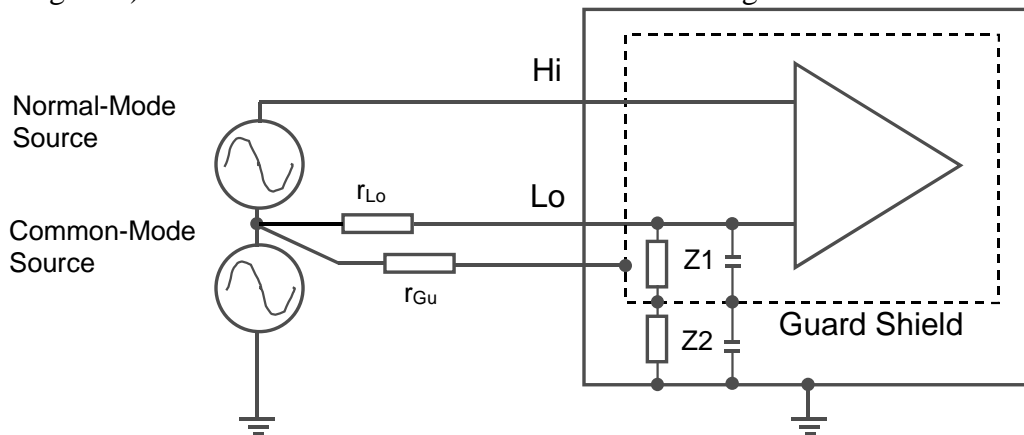

Figure 4
**Common mode interference** is generally disturbances at line frequency generated when circulating currents exist between the source and the measuring instrument. The disturbance is common to both Lo and high terminals. Appropriate guarding techniques should be applied where measurements are made in an environment where common mode voltages exist – if in doubt always use remote guard. The Guard terminal on most precision Dmms is connected to internal shielding as well as pcb tracking to screen susceptible signal input lines and input circuits. In most cases the Dmms default setting is to internally connect the Dmm Guard to the Dmm Lo terminal. In the event that common mode exists the Dmm Guard should be switched to Remote with a connection (see figure 4) made to the source of the common mode voltage.